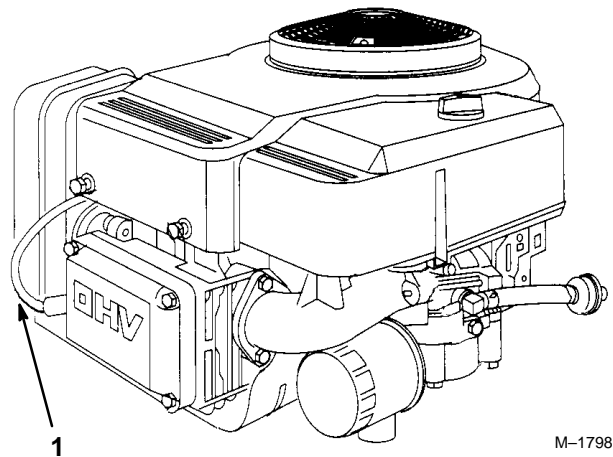

Figure 22
3. Pull the wire off the spark plug (Fig. 22). Now clean around the spark plug to prevent dirt from falling into the engine and potentially causing damage.
- Push the wire onto the spark plug (Fig. 22).